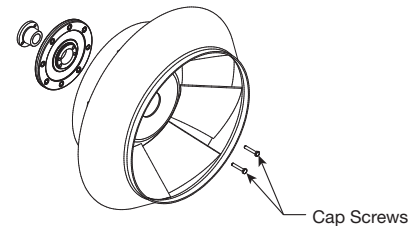

Figure 3
2. Loosen and remove the cap screws which fasten the bushing to the hub as shown in Figure 3.